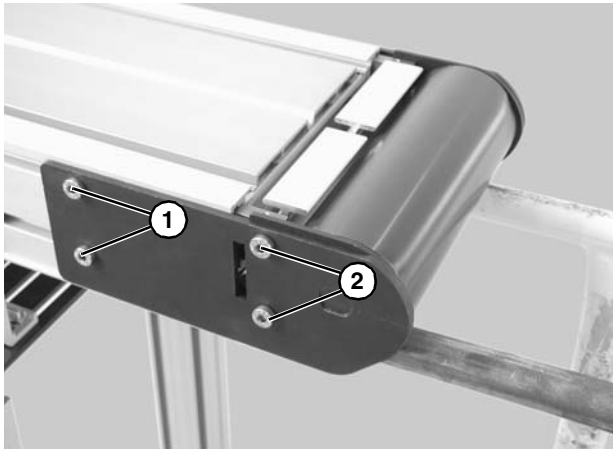

Figure 49
2. On one side of conveyor, loosen the two (2) back fastening screws (**Figure 49, item 1**) and remove two (2) front fastening screws (**Figure 49, item 2**).